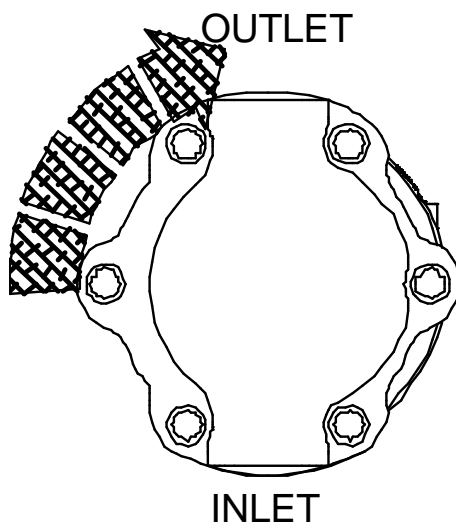
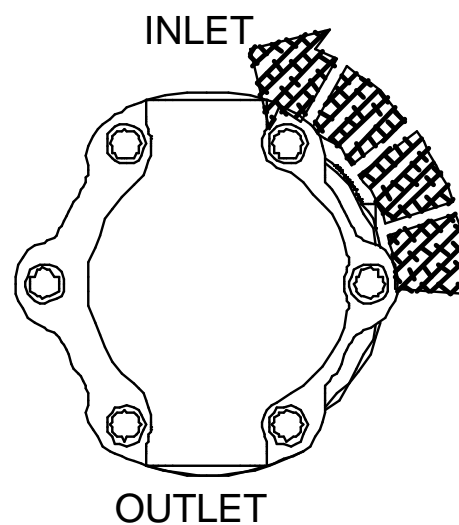

Figure 1a
Figure 1b
4. Determine which direction the fuel pump shaft will rotate. The direction the shaft is rotated will determine which port is the inlet and which is the outlet. Using Figure 1a & 1b as a reference identify the fuel pump inlet and outlet ports. If the fuel pump shaft is rotated in a clockwise direction as viewed from the rear of the pump the inlet and outlet ports will be as shown in Figure 1a. If the fuel pump shaft is rotated in a counter-clockwise direction the inlet as shown in figure 1a now becomes the outlet and the outlet in figure 1a is now the inlet, this is shown in figure 1b.